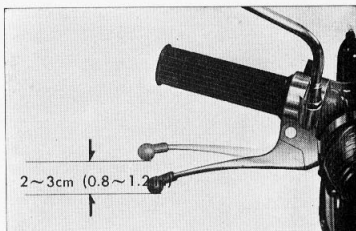

Figure 6-34. Free play of front brake lever
- a. The free play of the brake lever, that is, the distance between the normal attitude and the point where the brake starts to take hold should be 2~3cm (0.73~1.12 in). (Fig. 6-34)